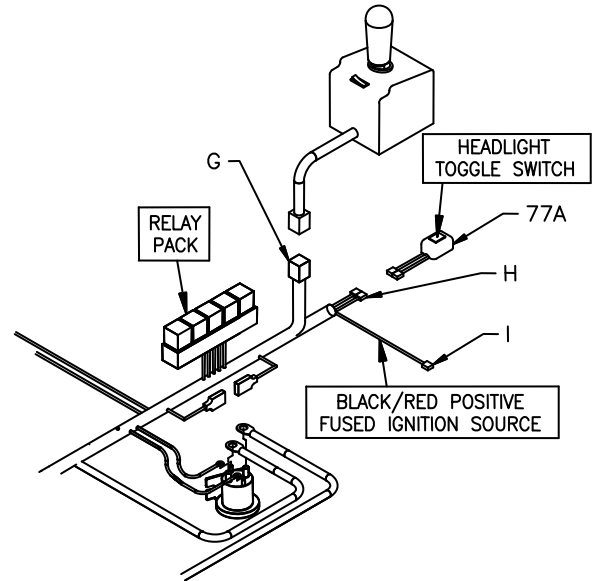

Figure 17. Internal Cab Wires G10144
11. Pull the two BLACK wires (H), BLACK/RED wire (I), and the 9 Pin Molex connector (G) from the engine compartment into the cab through the 1-1/4" diameter hole in the firewall.
13. Connect the Two Tab Connectors (H) to **MSC04747** Headlight Toggle Switch (77A) as illustrated in Figure 17.